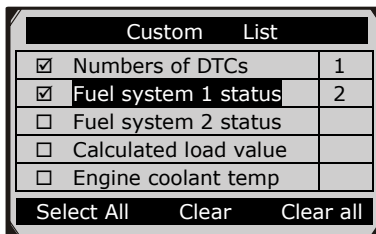

Figure 6.14
- 2) Use the **UP/DOWN** scroll button to move up and down to the desired items and click **Select** button to confirm. The selected parameters are marked with solid squares.(Figure 6.14)